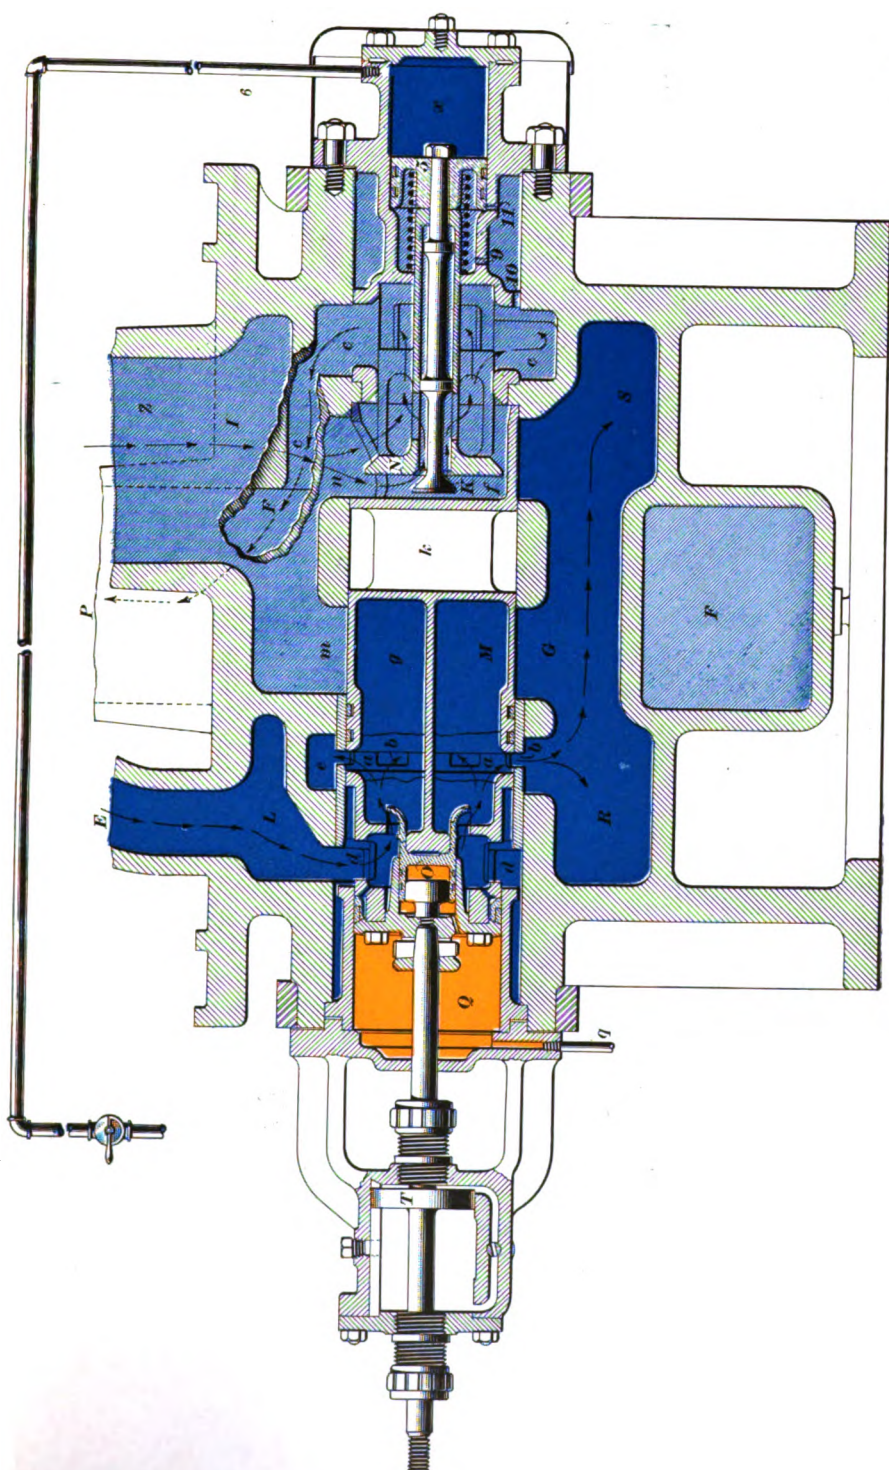

FIG. 40.
**81. Working Simple.**—When the engineer desires to start the locomotive as a simple engine, he first turns the handle of the emergency operating valve to the position marked *simple*, so as to admit pressure into chamber *x*, and then opens the throttle (Fig. 40). The pressure in chamber *x* forces open the emergency exhaust valves *K* and *N*, while, by admitting steam into chamber *L*, the intercepting valve is caused to move into the simple position and to close the passages *m* and *n*; hence, the exhaust steam from the high-pressure cylinder passes through the receiver into chamber *I*, and is then obliged to pass out, through the exhaust valve *N* and the emergency exhaust passage *c*, into the main exhaust passage *F* and the atmosphere, as indicated by the arrows. The walls of chamber *I* are broken away to show how the passage *c* leads into the main exhaust passage *F*. The low-pressure cylinder is supplied with live steam at a reduced pressure through the reducing valve, as indicated by the arrows.
**85. Working Simple.**—In starting on a grade or in starting heavy trains, the engine should be worked simple until the train is moving freely. To start an engine simple, move the handle of the operating valve into the position marked *simple*, drop the reverse lever into the corner, open the cylinder cocks, and then open the throttle. In this way, live steam will be worked in both cylinders (see Fig. 40) until the engineer converts the engine to compound. The engine, when worked simple to start a heavy train, will jerk less and will start the train more smoothly. It should be converted to compound, however, just as soon as possible after the train is moving freely. This is accomplished by turning the handle of the operating valve to the compound position. After changing to compound, the reverse lever should be hooked up a few notches at a time until in the proper running notch. As with the other types of compounds, the steam supply should be controlled with
Should the steam-supply pipe *o* to the chamber, Fig. 40, become broken, the intercepting valve can be forced into simple position by removing the head of chamber *x* and blocking the emergency exhaust valve open, in the position shown in Fig. 40.